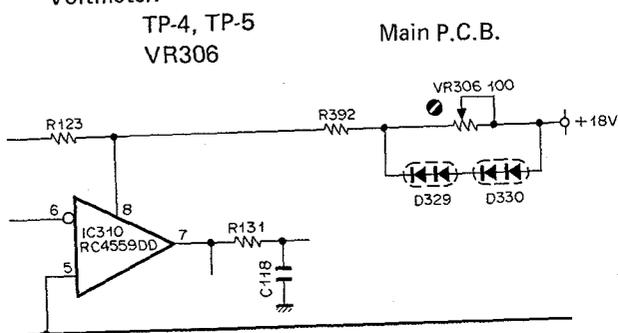

Fig. 4.2.1 Phono Eq. Amp. DC Offset Adjustment
- (1) Short Phono Input Jacks with shorting plugs (of which positive and negative sides are shorted).
- (2) Refer to Fig. 4.2.1. Connect a DC Voltmeter to Test Point TP-4, and adjust VR306 to obtain -0.5 V (to -1 V) on the DC Voltmeter.
- (3) Connect a DC Voltmeter to Test Point TP-5, and check to insure that the level is within -0.5 V to -1 V on the DC Voltmeter.